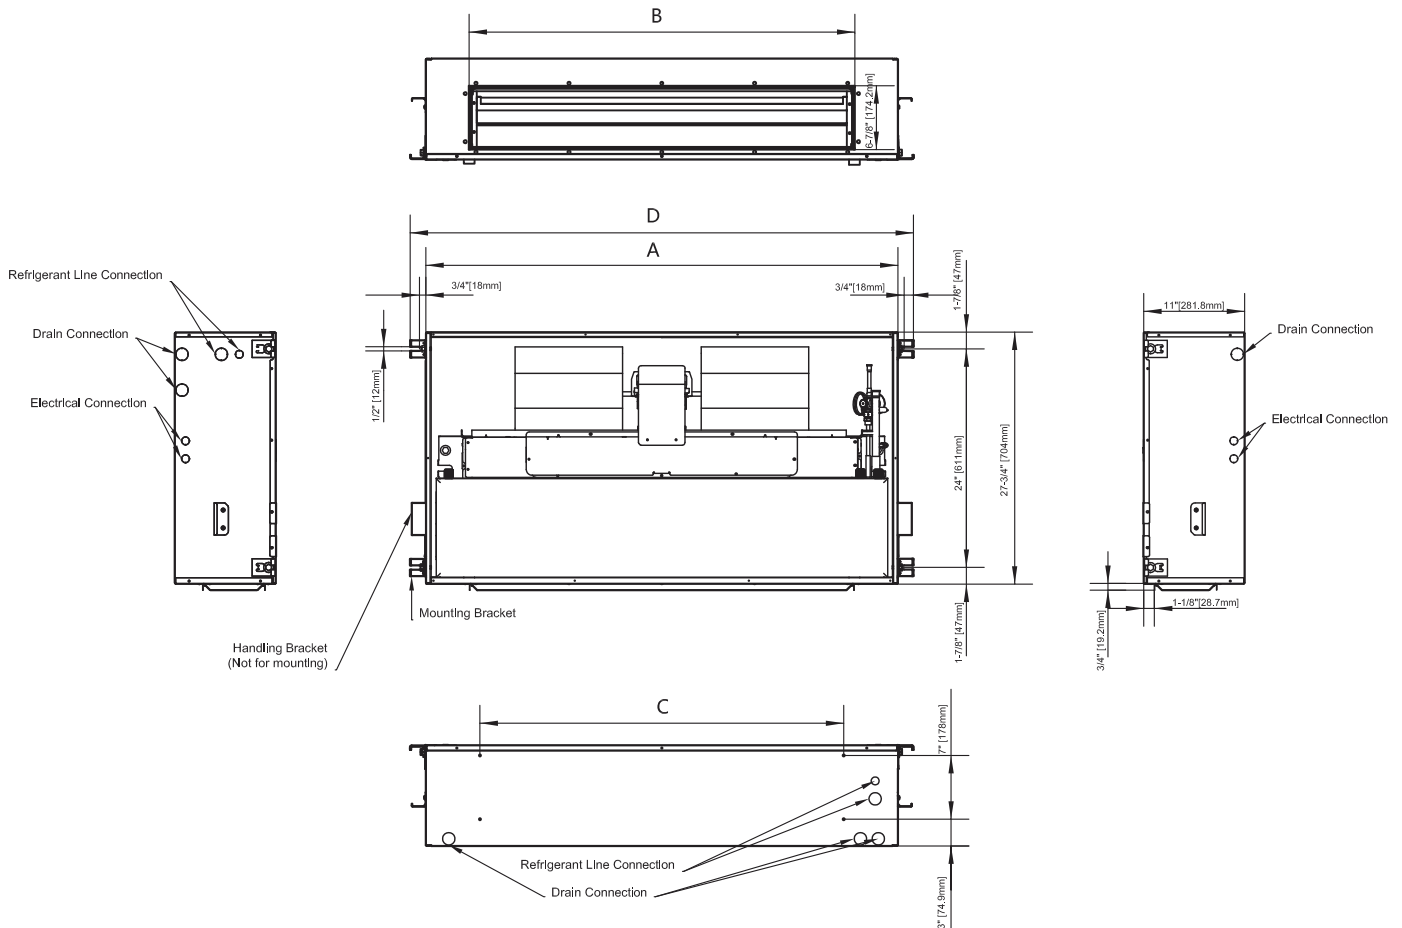
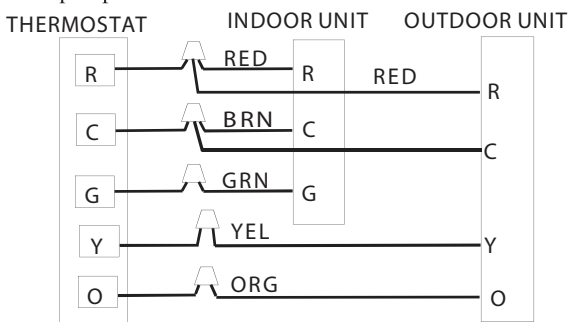

Fig. 1 - Dimensional Drawing
Fig. 3 - Wiring Layout Heat Pump Unit (Cooling and 1-Stage Heat) A150200
See Figs. 3 and 4 for field low-voltage wiring. See Fig. 1 for location of the electrical inlets. For maximum ampacity and over-current protection, see unit rating plate or product data sheet.
4. Connect low-voltage leads to thermostat and outdoor unit. See Figs. 3 and 4, as well as the outdoor unit wiring label.
5. Connect per Fig. 3 when electric heat is NOT used with a heat pump.